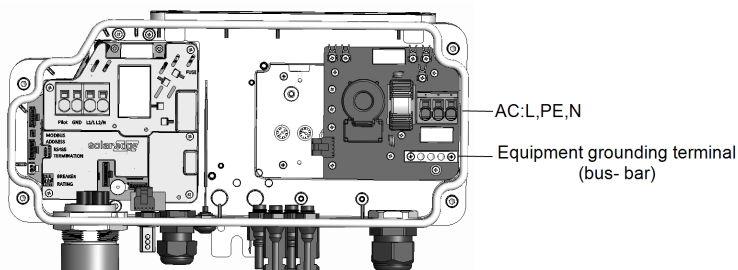

Figure 12: Inside the Connection Unit
4. Insert the grounding cable to the equipment grounding bus-bar (see Figure 12).